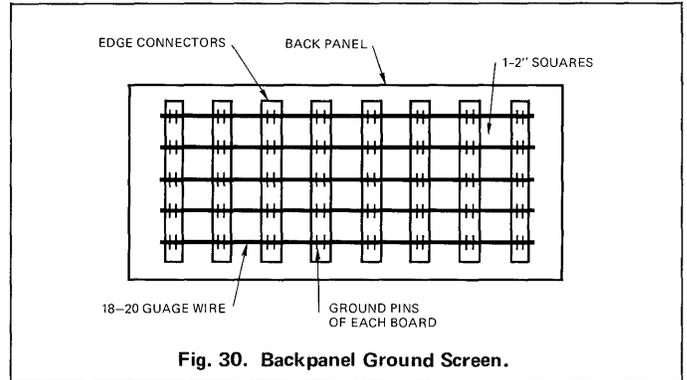

Fig. 30. Backpanel Ground Screen.
(6) Back Panel Wiring (Figure 30)